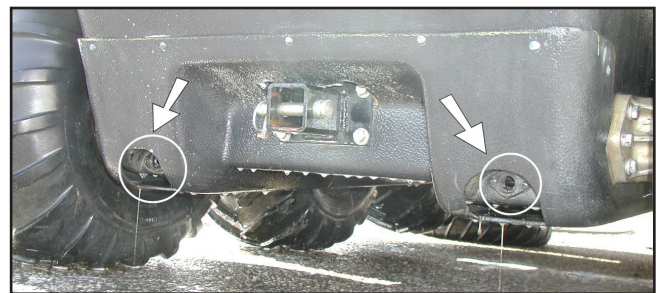
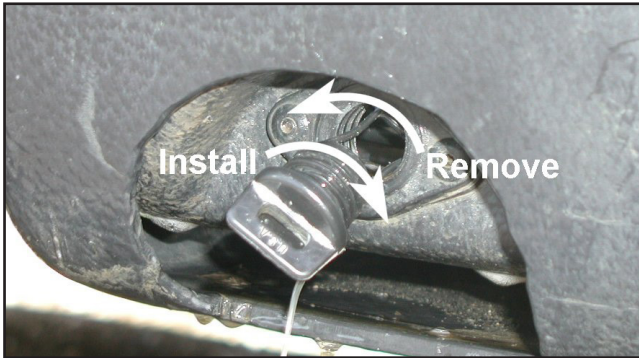

Figure 5-1. Location of rear drain plugs.
Figure 5-2. Removing and Installing the drain plug.
1. Drain Plugs are accessible from the outside of the vehicle. Make sure both drain plugs in the rear of the lower body (Figure 5-1) are in place and properly tightened. To install, locate the drain plugs at the rear of the vehicle and thread each drain plug in a clockwise direction into the plug fitting ensuring a snug fit. Check the O-ring on drain plug periodically. When removed, each drain plug remains attached to the hole opening to prevent loss or misplacement of the plug while the vehicle is draining. (Figure 5-2).